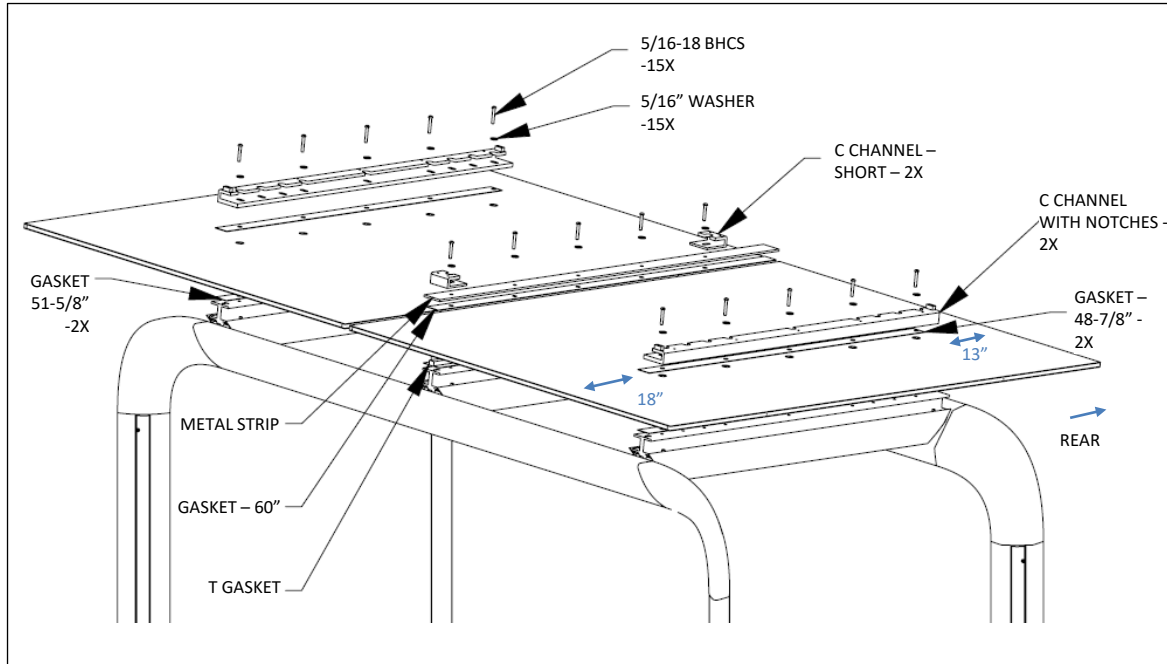

Fig. D2 – solid metal roof installation
2. Place gaskets on rafters. T-gasket is installed in center location, See Fig.D2.
3. Place roof panels in position. See Fig. D2 for orientation of panels.
4. Place gaskets on top of roof panels. See Fig. D2 for location of different length gaskets.
5. Place metal top strip in position on top of gasket. See. Fig. D2 for location.